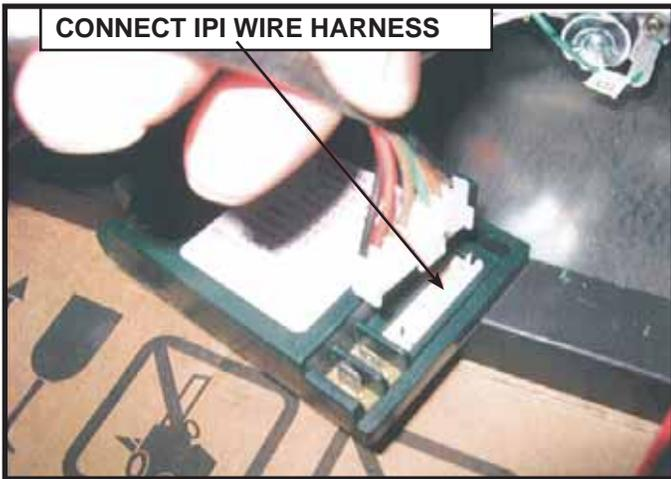

Figure 7.
9. Connect IPI wire harness to IPI module. See Figure 7.